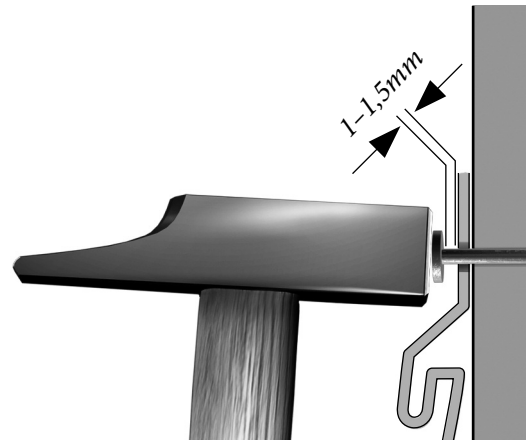

fig.2
3. Do not nail siding too tightly. Leave a distance of about 1 to 1.5 mm between the upper edge of the nail head and the panel. It is necessary for free extension-compression, which will prevent ripple effect (Figure 2).